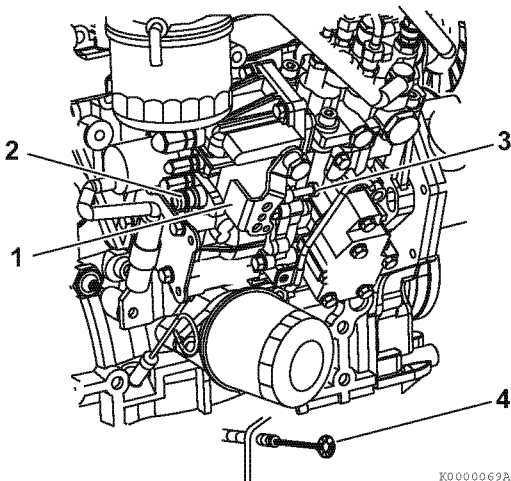

Figure 5-8
1. Check that the governor lever (Figure 5-8, (1)) makes uniform contact with the high idle (Figure 5-8, (2)) and low idle (Figure 5-8, (3)) speed limit screws when the engine speed control is in the high idle speed or low idle speed position.
3. In some engine speed control applications, loosen the throttle cable lock nut (Figure 5-8, (4)) and adjust the cable so the governor lever makes proper contact with the high/low idle speed limit screw.